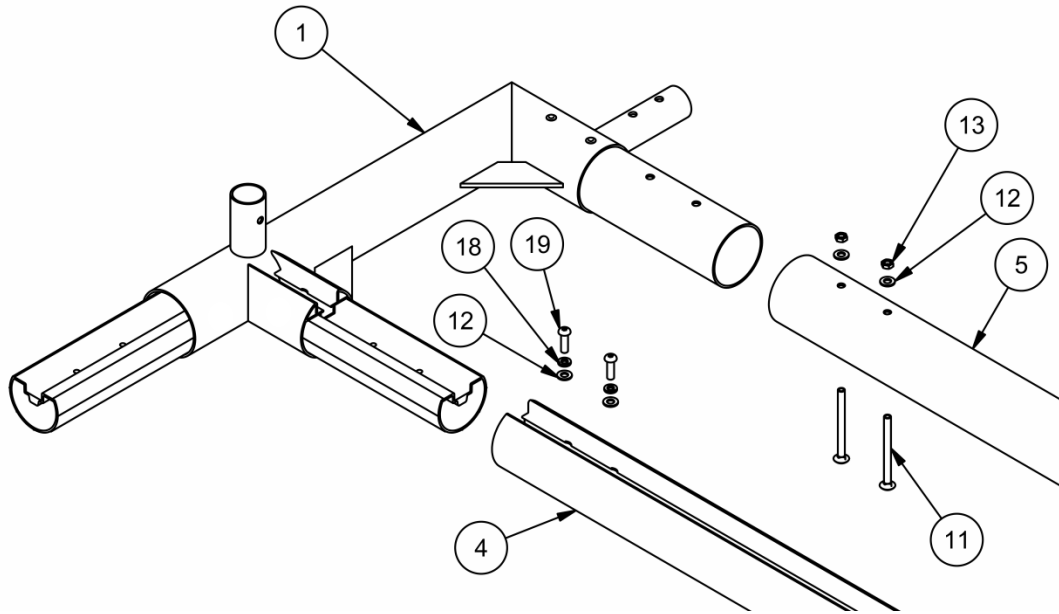

Figure 1: Install Corner Assembly
2. Then slide both soccer crossbar and football crossbar onto one corner piece; making sure all holes are properly aligned. See figure 1 & 2.